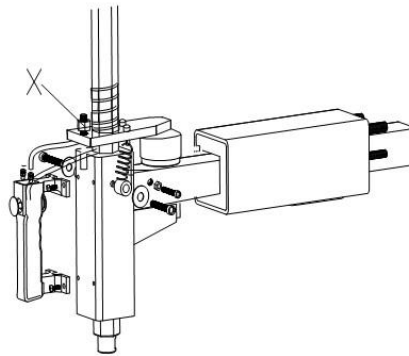

Fig 24
Note: If Vertical Arm not be locked or not meet the requirement that 2-3mm from the bottom of Mounting head/demounting head to rim, please adjust Hexagonal Locking Plate, refer to Fig 24 and adjust the (X).